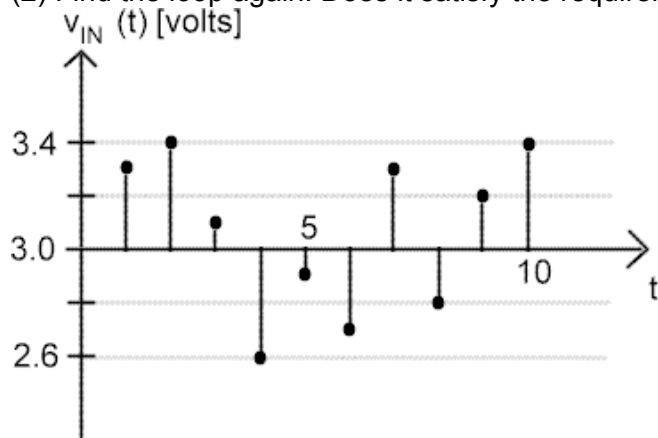

Figure 3
- (3) If the input  $V_i(t)$  to the Schmitt trigger is the set of pulses shown in figure 3, plot the transfer characteristic of the Schmitt trigger. Plot the output waveform  $V_O(t)$  lined up in time with  $V_i(t)$ .
- (4) Find  $V_R$ .
- (5) Is it possible to set the threshold voltage at a negative value? If no, explain why not? If yes,
- (6) How must  $V_R$  be chosen if  $V_{T1} = -V_{T2}$ ? With your newly chosen  $V_R$  and from preliminary question a(3), draw clearly the output lined up in time with the given sinusoid input if  $R_1 = 13R_2$ . Show all relevant values.
- (7) If the threshold voltage  $V_{T2}$  is zero and the hysteresis is  $V_H = 0.2V$ . Calculate the time duration of the positive and negative portions of the output waveform for a 1KHz sine wave input whose peak-to-peak value is 4V. Draw the output waveform lined up in time with the input and show all relevant values.
- (8) For the Schmitt trigger circuits, as the loop gain  $|b A_v|$  increases from zero to unity we note that the transfer gain  $A_{vf}$  increases from 14,000 toward infinity. There is no hysteresis as long as  $-b A_v \ll 1$ . Elaborate on the consequences resulting from an adjustment which ensures that the maximum loop gain is unity ( $b A_v = 1$ ).  $A_{vf} = A_v / (1 - b A_v)$
- (9) In practice, a loop gain in excess of unity is chosen and a small amount of hysteresis is tolerated for the Schmitt Trigger explain what will happen if the threshold voltage range is larger than the peak-to-peak signal.
- (10) If noise spikes, positive and negative are present on the input signal to the circuits in the neighborhood of the amplitude  $V_R$ . Explain why the output may "chatter" (i.e., change from one state to the other). Is this difficulty avoided in a Schmitt trigger (i.e., when positive feedback or regeneration is added to a comparator)? Explain.
- (11) Sketch the circuit of a noninverting Schmitt trigger. Find expressions for the threshold levels  $V_{T1}$  and  $V_{T2}$ . Plot the transfer characteristics and show all relevant values. Draw the output waveform lined up with time with a sinusoid input signal.